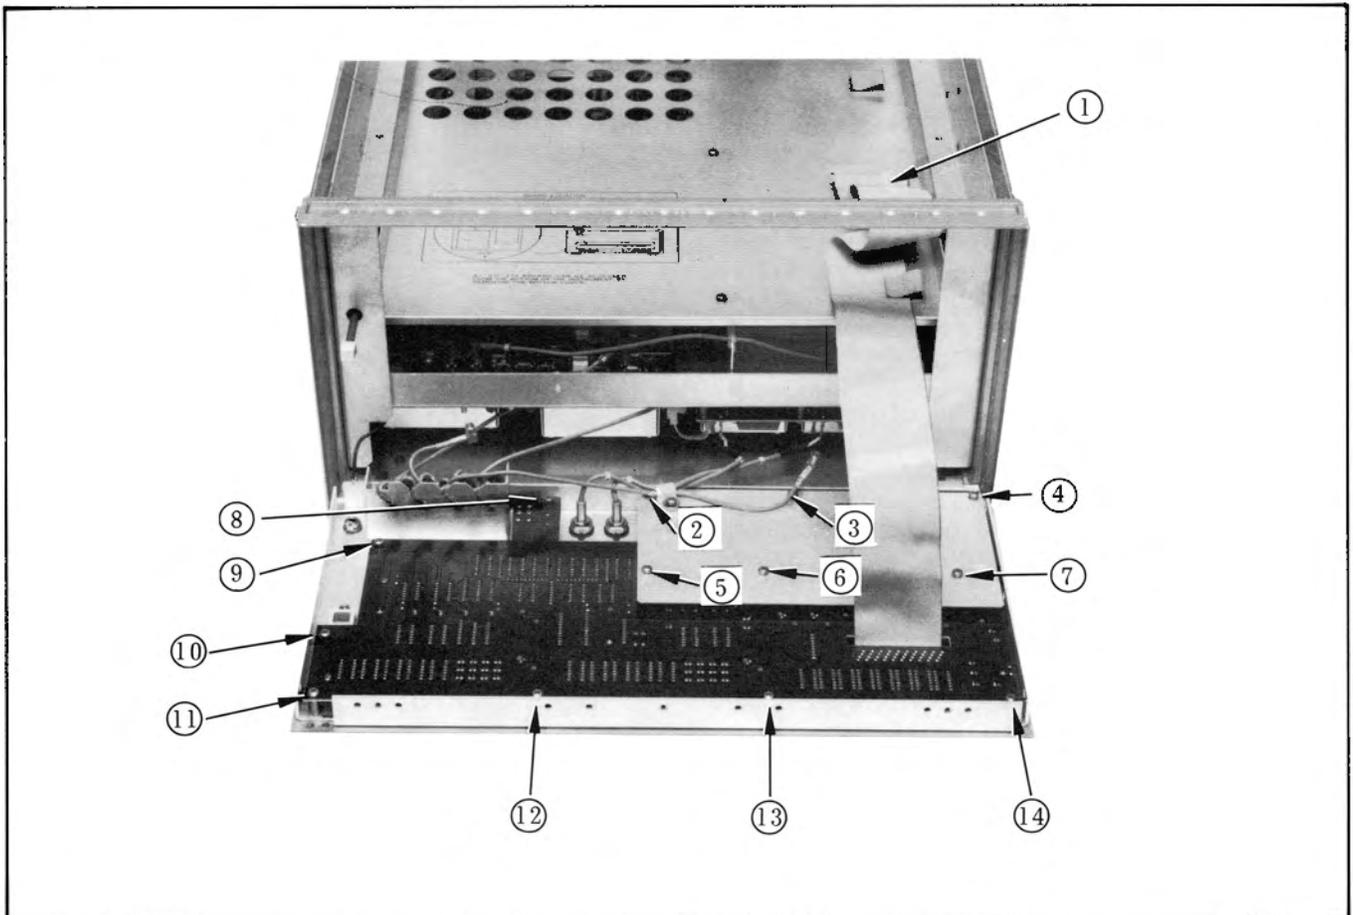

Figure 8-39. A5 Display and Keyboard Control Board Disassembly.
13. Disconnect the flat cable ① between the A6 and A5 boards from A6J7. See Figure 8-39.
17. Lay down the front panel assembly as shown in Figure 8-39.
18. Remove the six screws (② ~ ⑦) securing the shield plate to the A5 board (the cable clamp screw need not be removed).
19. Remove the seven screws (⑧ ~ ⑭) securing the A5 board to the front panel assembly.